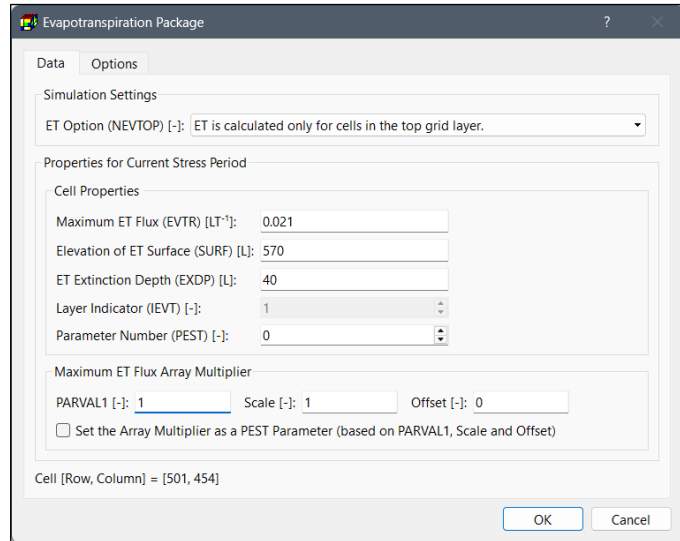

Figure 58. The Evapotranspiration Package dialog box
1. **All input methods:** Figure 58 shows the dialog box for specifying cell, vertex, or polygon properties.